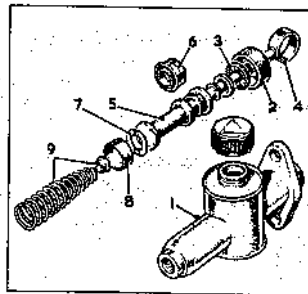

Fig. 5.3 Master cylinder - exploded view (Sec 4)
- 3 Refer to Fig. 5.3, slide the rubber boot off the master cylinder and ease it down the pushrod.